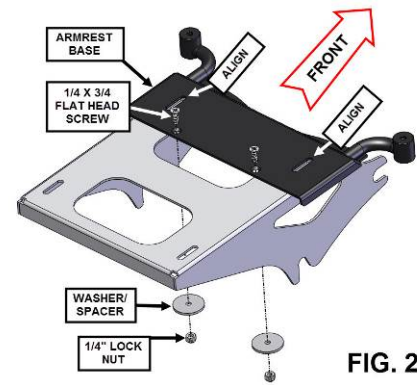

FIG. 2B
5. FIG. 2B SHOWS INSTALLING THE ARMRESTS ON A DETACHABLE TRUNK MOUNT.